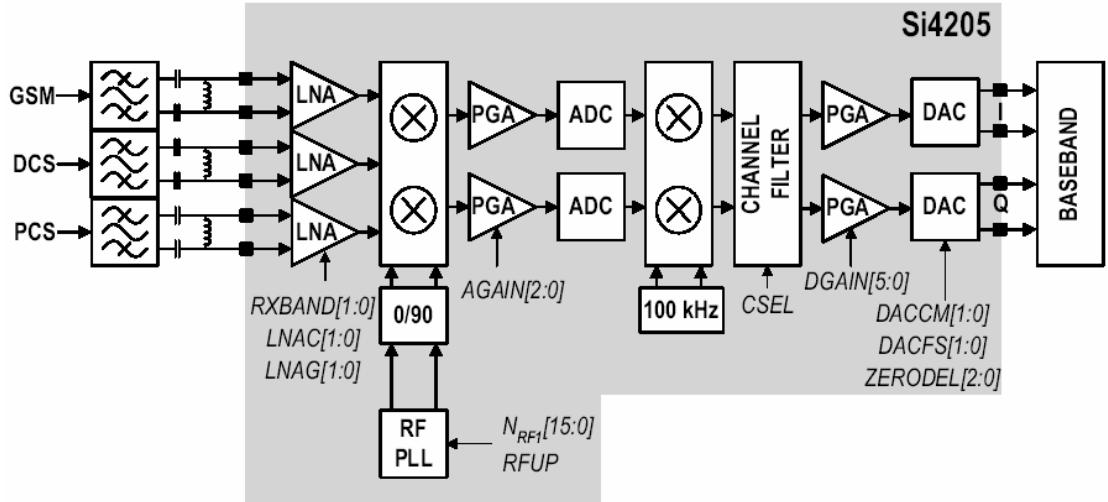

Figure. 3-2 SI4205 RECEIVER PARTIAGRAM
The LNA inputs are matched to the 150Ω balanced output SAW filters through external LC matching networks. The LNA gain is controlled with the LNAG[1:0] and LNAC[1:0] bits in register 05h (Figure 3-2).
B. Intermediate frequency (IF) and Demodulation
A quadrature image-reject mixer downconverts the RF signal to a 100KHz intermediate frequency (IF) with the RFLO from the frequency synthesizer. The RFLO frequency is between 1737.8 to 1989.9 MHz, and is internally divided by 2 for GSM 850 and E-GSM 900 modes. The mixer output is amplified with an analog programmable gain amplifier (PGA), which is controlled with the AGAIN[2:0] bits in register 05h (Figure3-2). The quadrature IF signal is digitized with high resolution A/D converters(ADCs).